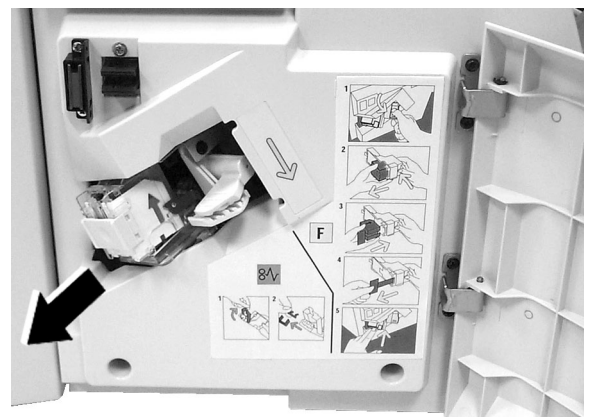

Figure 4: Removing the Staple Cartridge
- 3 Lift the Staple Cartridge slightly and remove it from the cartridge holder (Figure 4).